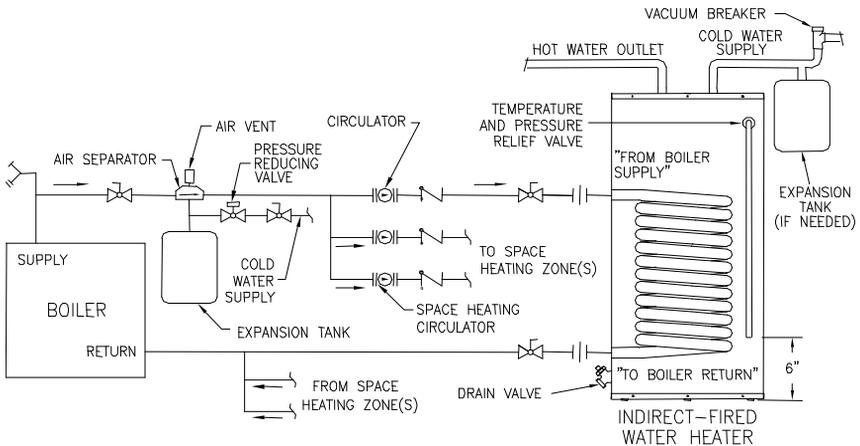

Figure 3 - Water Boiler Piping with Circulators
2. For a space heating system that utilizes CIRCULATORS, refer to Figure 3. The indirect-fired water heater connection labeled “FROM BOILER SUPPLY” should be piped to the boiler supply piping. Mount the circulator making sure the flow arrow points toward the water heater. The use of shut-off valves and unions are recommended for future service convenience. The use of an air separator and vent is recommended to eliminate air in the system. Pipe and fittings between the boiler and indirect-fired water heater must be ¾” diameter or larger.